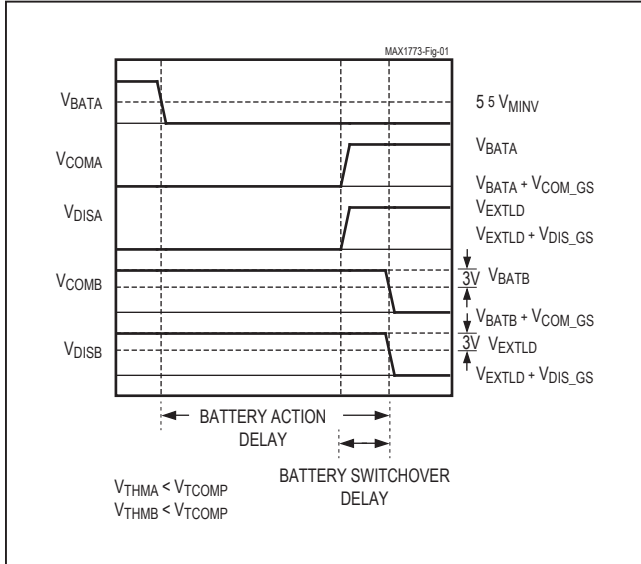

Figure 1. Battery Delay (Battery A to Battery B)
**Note 6:** Battery Switchover Delay starts when either  $V_{COM\_}$  or  $V_{DIS\_}$  of the connected battery begins to rise and ends when both  $V_{COM\_}$  and  $V_{DIS\_}$  of the other battery have fallen 3V below their sources (Figure 1 and 2).
**Note 7:** Battery Action Delay starts when the connected battery's voltage falls below  $5 \times V_{MINV}$  and ends when both  $V_{COM\_}$  and  $V_{DIS\_}$  of the other battery have fallen 3V below their sources (Figure 1 and 2).
In applications where the battery voltage always falls away slowly, tSWITCHOVER is primarily composed of the Battery Switchover Delay. However, in applications where the battery voltage can suddenly fall away, tSWITCHOVER is substantially increased because it is primarily composed of the Battery Action Delay (Figure 1 and 2).